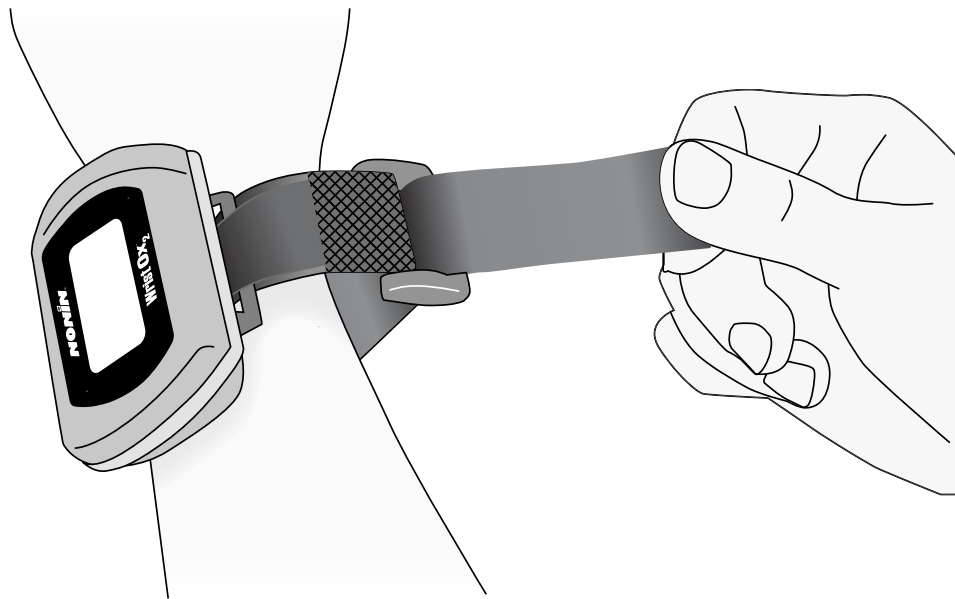

Figure 13: Thread and Tighten Wristband
3. If using the multiple use wristband, thread the rounded end of the wristband through the plastic ring. Pull the strap through the plastic ring until the device fits comfortably on the wrist (figure 13).